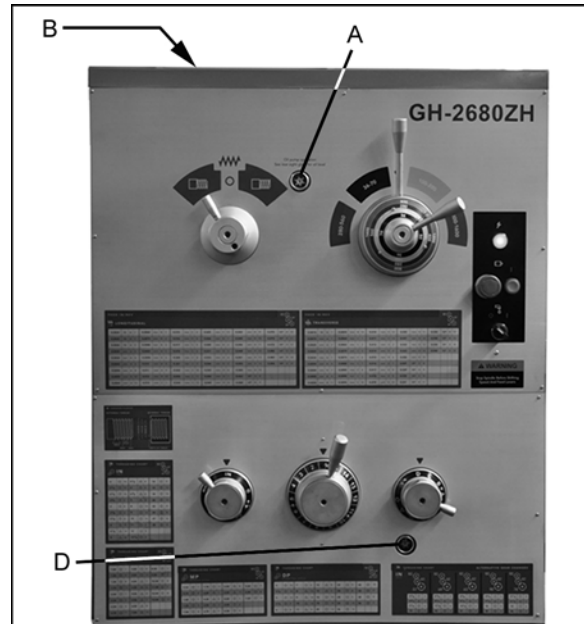
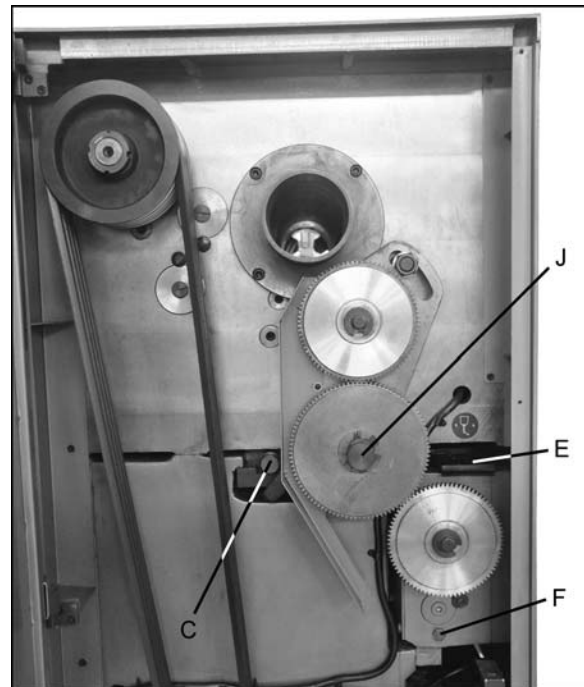

Figure 8 – Headstock lubrication
Figure 9 – Lubrication points
1. **Headstock** – Oil must be up to indicator mark in oil sight glass at the rear of the headstock. [NOTE: The sight glass on the front of the headstock (A, Figure 8) verifies operation of the oil pump, the one at rear of headstock (not shown) indicates oil level]. Top off with SAE 20W oil. Fill by removing the rubber mat and unscrewing the plug (B) on top of the headstock.
2. To drain the headstock, remove the nut on the drain pipe (C, figure 9). Drain oil completely and clean out all metal shavings, then rinse the casting case with kerosene. During the breaking-in process for the lathe, the first oil change should be after 10 days; the second after 20 days. Then change the oil in the headstock every three months.
4. **Change Gear Axle** – Periodically remove end plug (J, Figure 9) and press #2 lithium grease into the axle to lubricate the gear axle and sleeve. Coat all gears with non-slinging grease.
5. **Gearbox** – Oil must be up to indicator mark in oil sight glass (D, Figure 8). Top off with SAE 20W oil. To add oil to the gearbox, pour it into the pan (E, Figure 9). To drain, remove drain plug (F, Figure 9). Drain oil completely and refill after the first three months of operation. Then change oil in the gearbox every six months.
14. **Travel Setting Rod** – Periodically insert SAE 20W oil into the ball oiler on each end of the rod (Figure 9).